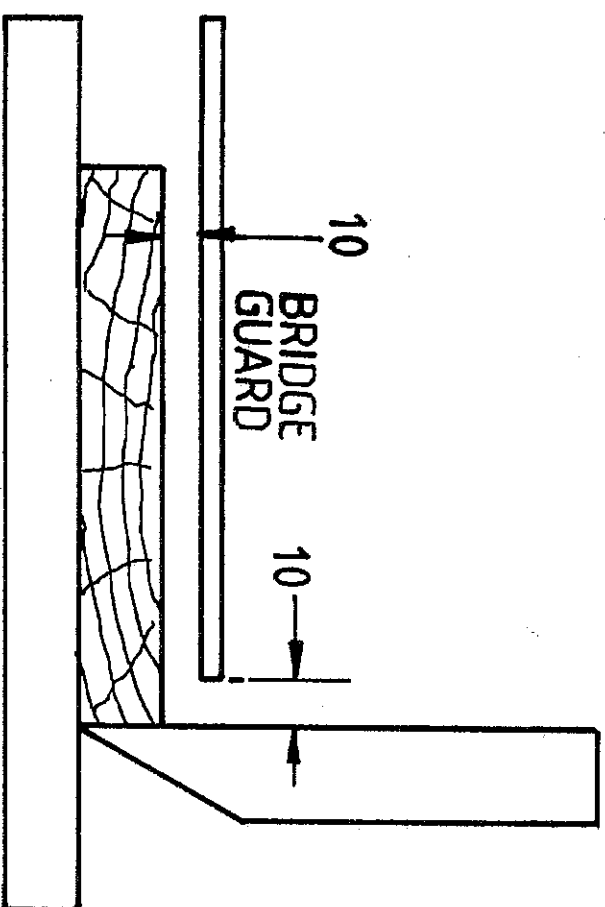

FIG.17
**NOTE:** The gaps between fence and bridge guard and timber and bridge guard must not exceed 10mm, FIG.17.